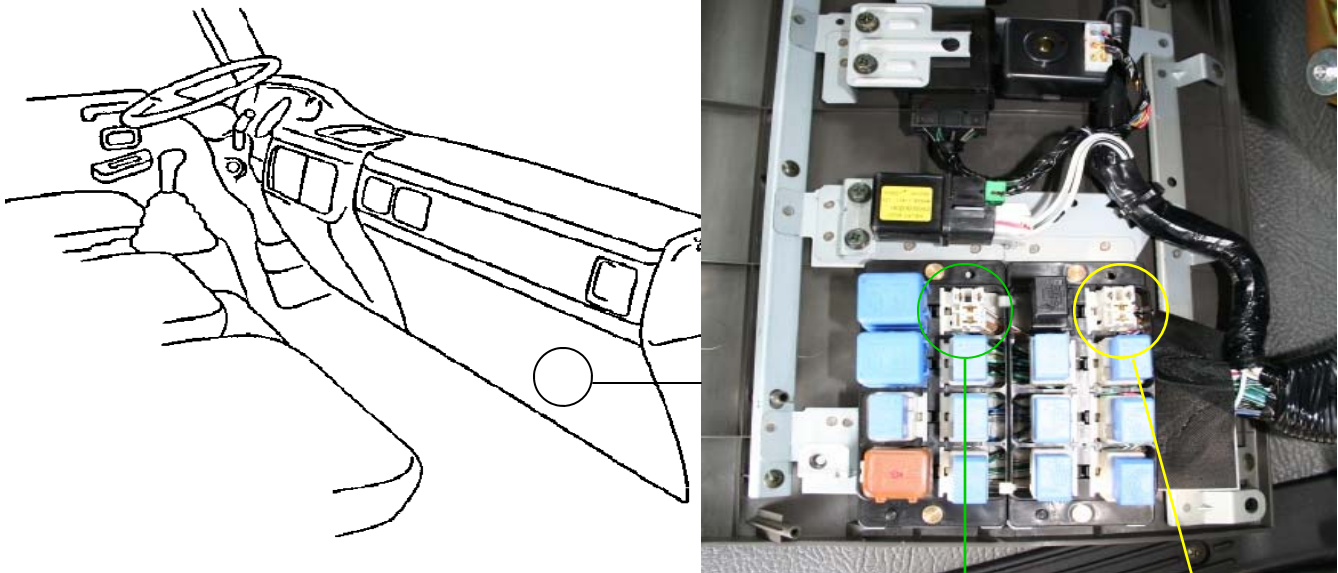

FIGURE 4
3. Install PTO Relay(s) (except UD1800CS with Aisin ATM) in the relay/junction block. Automatic Transmission equipped vehicles require two (2) relays and vehicles equipped with Manual Transmission's require one (1). See Figure 4 for the appropriate relay locations.